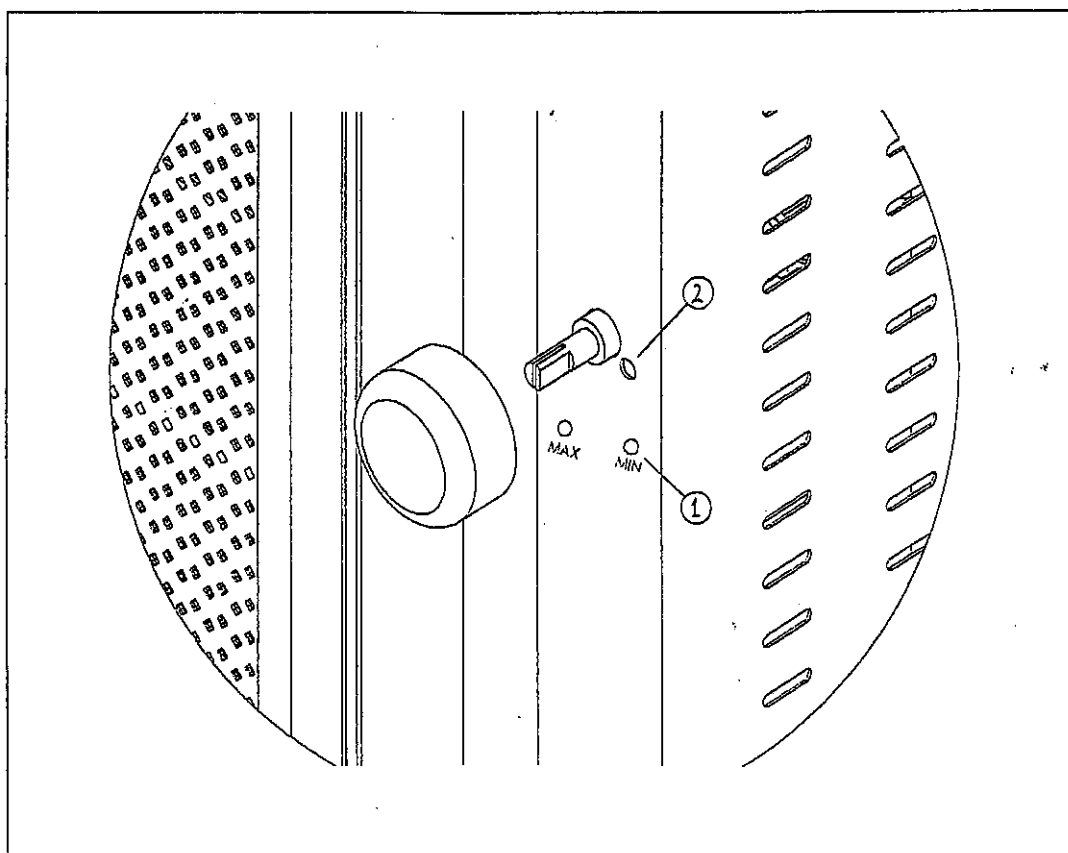

Fig. 3
3.3 REGULATION OF THE SMALL FLAME (Fig. 3)
Turn on the main burner according to the instructions, turn the knob at the position **MIN** of the little flame (**No 1, Fig. 3**). Make sure that, at the position **MIN**, burner's flame is still alight, even during rapid turning of the knob from the MAX to the MIN.
- pull off the knob of the rubinet & with a small screwdriver regulate the screw of the rubinet, which is located behind the hole (**No 2, Fig. 3**).